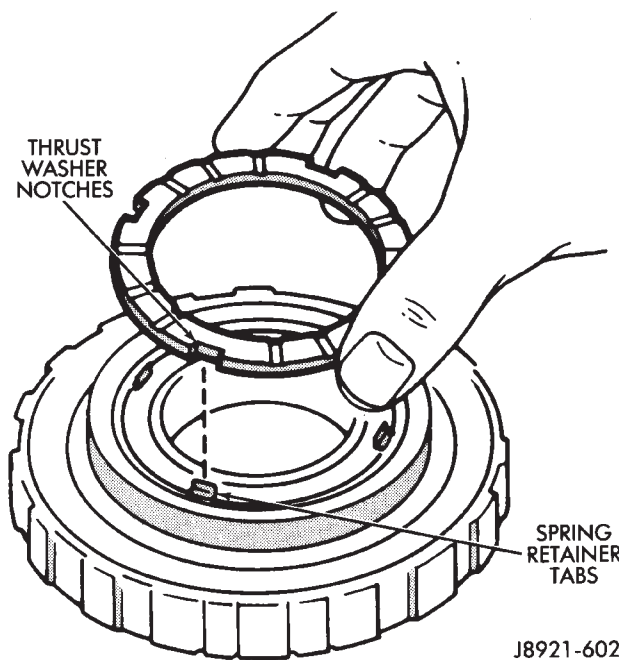

Fig. 8 Installing Second Brake Thrust Washer
(5) Coat thrust washer with petroleum jelly and install it in drum. Be sure washer notches are aligned with tabs on spring retainer (Fig. 8).
(6) Set brake components aside for final assembly.